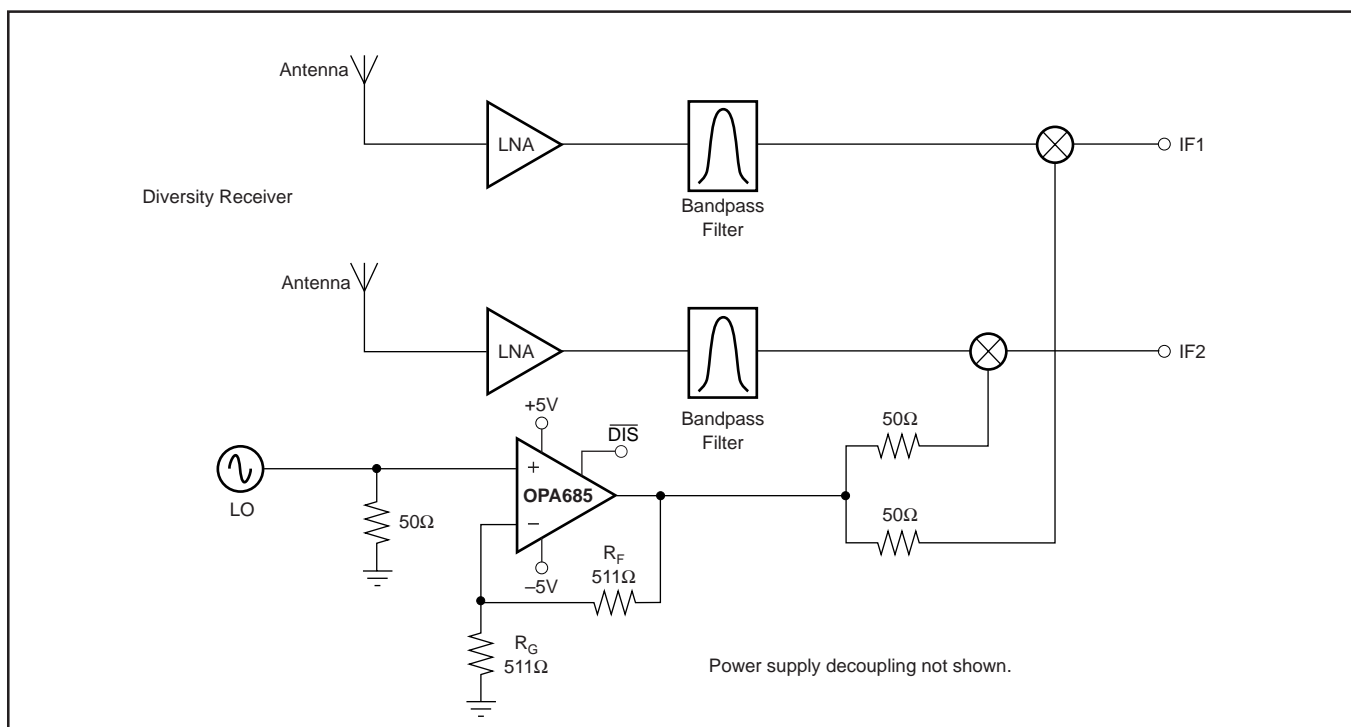

FIGURE 6. Dual Output LO Buffer.
The OPA685 may also be used to buffer the Local Oscillator (LO) from the mixer(s). Operating at a voltage gain of +2, the OPA685 will provide almost perfect load isolation for the LO with a net gain of 0dB to the mixer. Applications through 1GHz LOs may be considered, but best operation would be for LOs < 500MHz at a gain of +2. Gain could also be easily provided by the OPA685 to drive higher power levels into the mixer. One unique option in using the OPA685 as an LO buffer is shown in Figure 6. Since the OPA685 can